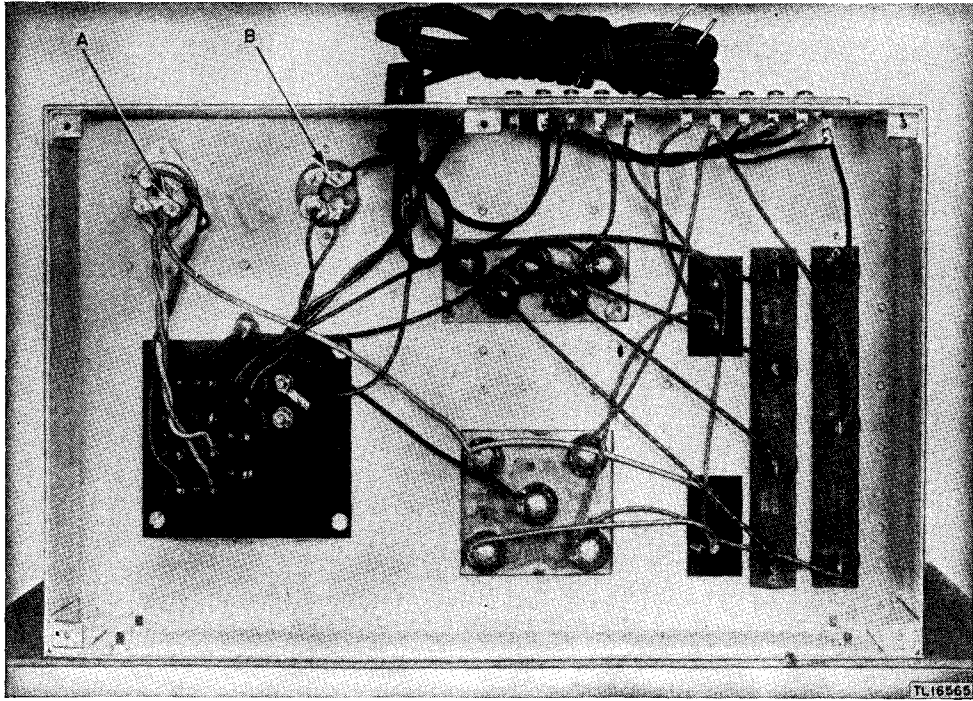

Figure 22. Power Supply Unit RA-91-A, bottom view of chassis, showing masking.
55. Power Supply Units RA-74-(*), RA-84-(*), and RA-94-A (figs. 22 and 23)
b. DISASSEMBLY. (1) Remove the two screws
(1) Contacts of tube sockets (A and B, fig. 22).